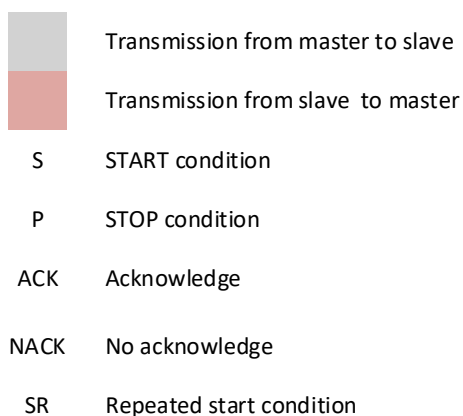

Figure 9: Write and read operations of the sensor
After receiving the register address, the slave sends an Acknowledgement (ACK). If the master is still writing to the slave (R/W bit = 0), it will transmit the data to slave in the same direction. If the master wants to read from the addressed register (R/W bit = 1), a repeated start (SR) condition must be transmitted to the slave. Master acknowledges the slave after receiving each data byte. If the master no longer wants to receive further data from the slave, it would send No-Acknowledge (NACK). Afterwards, master can send a STOP condition to terminate the data transfer. Figure 9 shows the writing and reading procedures between the master and the slave device (sensor).